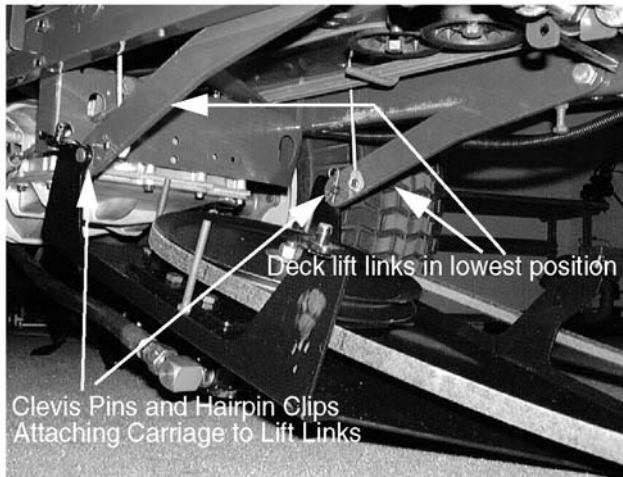

Figure 8-93.
10. Lower the deck height lever to its lowest position. See Figure 8-93.